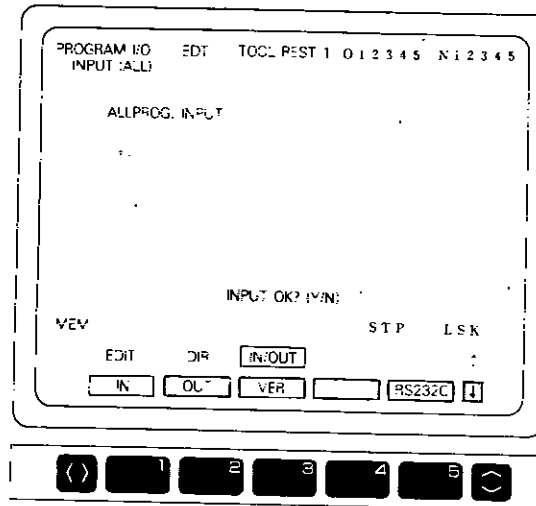

Fig. 3.4.35 ALL Input Screen
- 5 "ALL PROG. INPUT" and "INPUT OK? (Y/N)" are displayed as shown in Fig. 3.4.35: